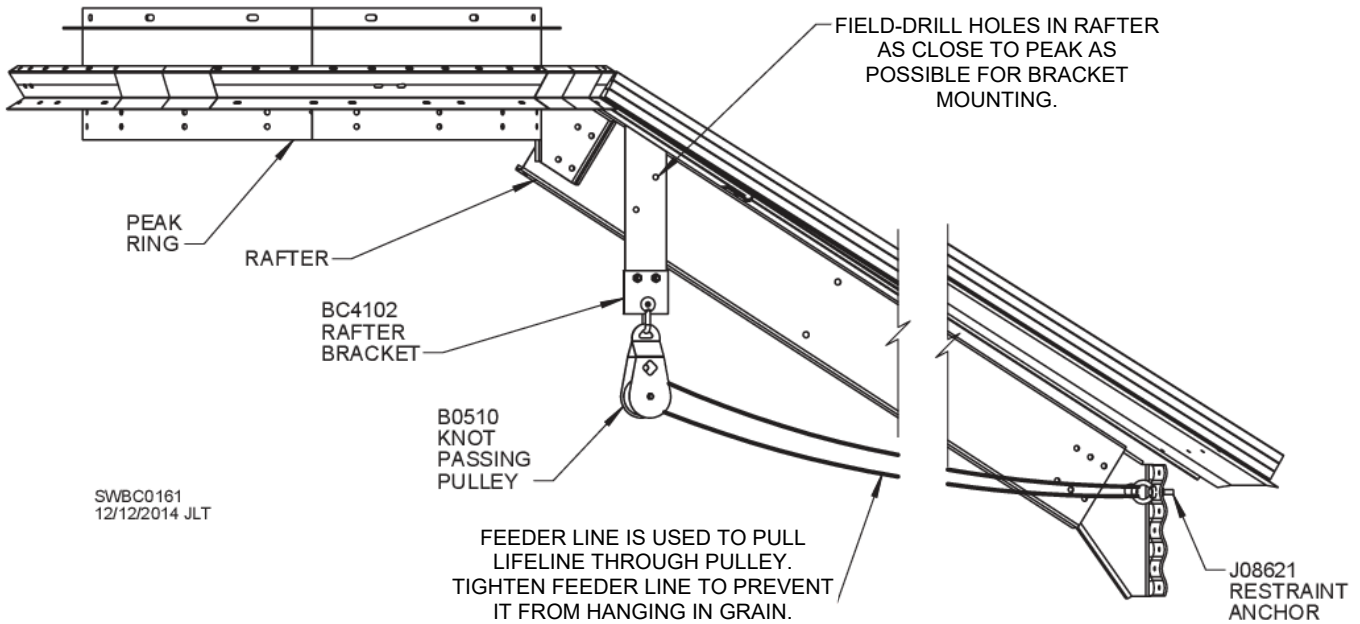

Fig. 42 – Mount knot-passing pulley close to peak ring (single rafter shown)
For added safety, a knot-passing pulley is mounted to rafter near peak of roof rated for 15,000 pounds or more. Pulley is intended to be used with a lifeline and safety harness (neither supplied by Sukup Manufacturing Co.). A feeder line should pass through knot-passing pulley and through restraint anchor at eave of bin near manhole. See Fig. 42. Feeder line is used to pull lifeline through knot-passing pulley for safety harness attachment. Do not attach safety harness to feeder line. Use safety equipment according to manufacturers' instructions. Refer to Sukup Grain Bin Operation Manual Safety Section and www.osha.gov for additional safety information.
Knot-passing Pulley Installation: Attach knot-passing pulley to rafter bracket as shown in Fig. 42. Bracket should be mounted to rafter as close to peak ring as possible. Mounting of bracket will depend on type of rafter. For single C-channel rafter, field-drill two (2) 9/16" holes using rafter bracket as drill guide. See Fig. 43. A double rafter (Fig. 44) requires field-drilling two (2) 9/16" holes in back-to-back C-channels, with bracket mounted between channels. For I-beam roof rafter, drill four (4) 9/16" holes and mount angle brackets as shown in Fig. 45, with pulley bracket mounted between angle brackets. In all cases, 1/2" bolts and nuts are used to attach brackets, and a shackle is used to hang knot-passing pulley from rafter bracket.
Loop feeder line through pulley and restraint anchor, trim as needed, and tie ends together so there is minimal sag. See Fig. 42.